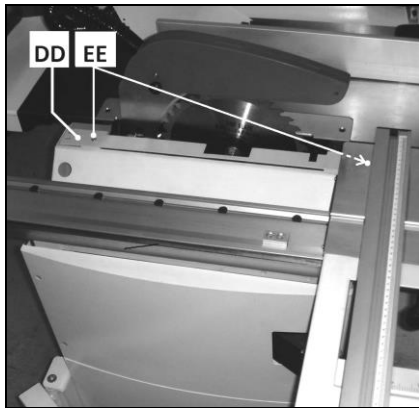

Fig 18
Loosen the 2 screws (EE, Fig18) and remove the sheetmetal protective cover (DD).